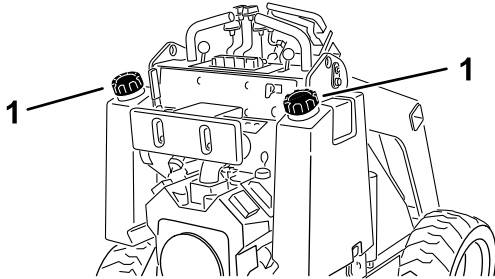

Figure 6
3. Clean around the fuel-tank cap and remove it (Figure 6).